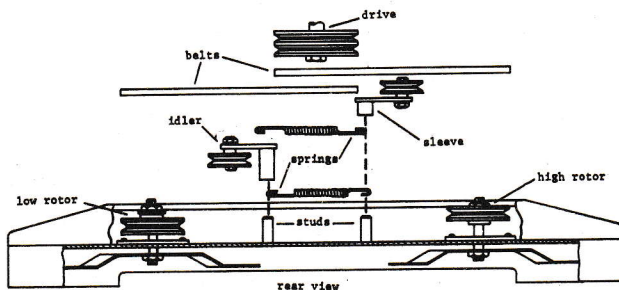
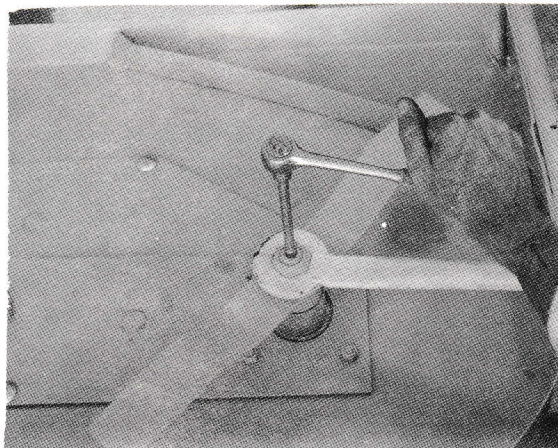

fig 2
fig 9
3. Mount the idlers on the studs as in fig 2. Note the different sleeve lengths of the idlers. The short sleeve goes next to the high rotor and the tall sleeve goes next to the low rotor. Set the idlers on the studs with the extended sleeves down. Work from the rear of the mower.
5. Hook the springs to the idler assembly from underneath as in figs 2 & 4, solid lines.
3. **BLADE REMOVAL:** STOP the engine, Put the PTO in the OUT position. Put the operating levers in NEUTRAL. BE SURE the blades have stopped. Remove the mower from the tractor. Turn the mower upside down. Hold the rotor shaft with a 3/8" socket drive and remove the nut with a 15367E1 Gravely Wrench or equivalent, fig 9. Do not use the top spindle nut to hold the spindle from turning.
7. **BELT REMOVAL:** Remove the belt covers. Unhook one end of each spring; use a spring puller or clamp-lock pliers. Remove the drive. Remove the belts. See figs 2, 3, & 4. fig 1, Item 14 and 15. Hold the rotor shaft with a 3/8" socket drive and torque the nut to 100 ft. lbs. Similar tightness can be reached with a Gravelly 11367E1 Wrench or any 16" length handle wrench when used by an average man, fig 9.